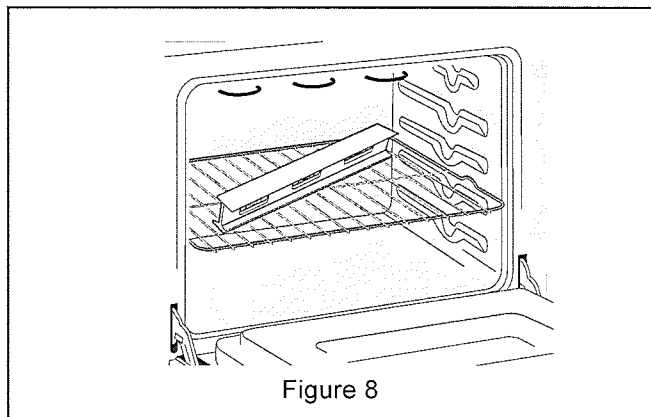

Figure 8
1. Install an oven rack in the center of the upper oven (see Figure 8).